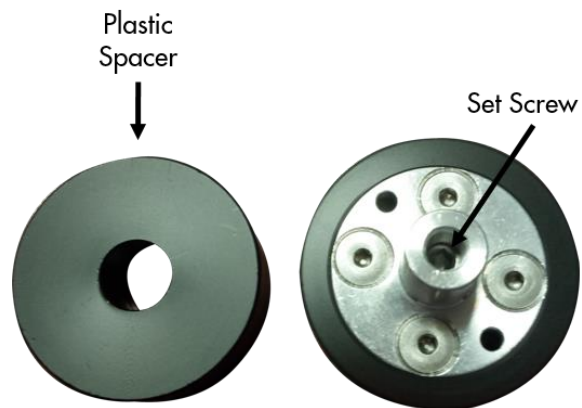

Fig. 2
2. Take black plastic spacer and set aside. (Fig. 2)